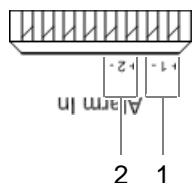

Figure 5.24 Alarm inputs (LSA+)
- Connect the corresponding wires of the external alarm sensors to the terminals on the LSA+ strip, refer to Figure 5.24 on page 123.